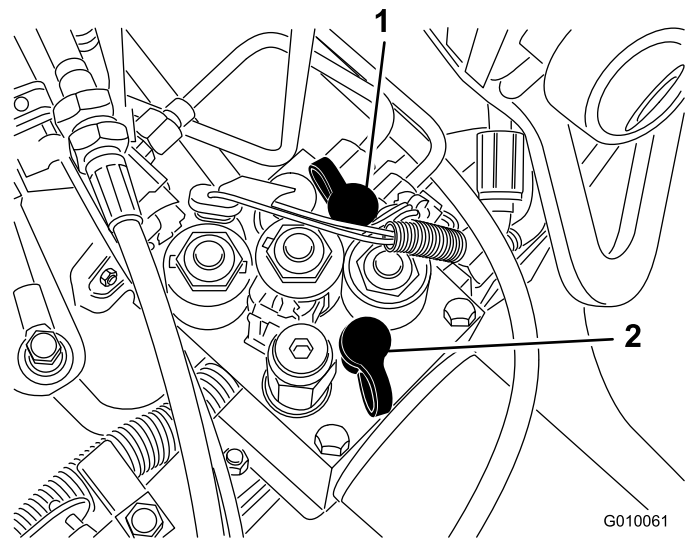

Figure 61
- Test Port G 1 (Figure 61) is used to assist in trouble shooting the lift circuit pressure.
- Test Port G 2 (Figure 61) is used to assist in trouble shooting the traction charge circuit.